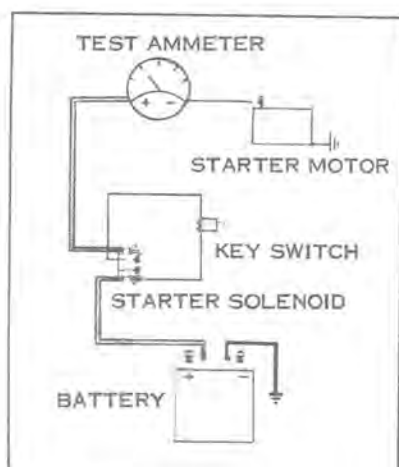

Figure 7-40
- Ground spark plug high tension leads so that engine can be cranked without firing. Place clamp-on DC ammeter capable of reading at least 200 amperes around starter motor lead (see Figure 7-40).